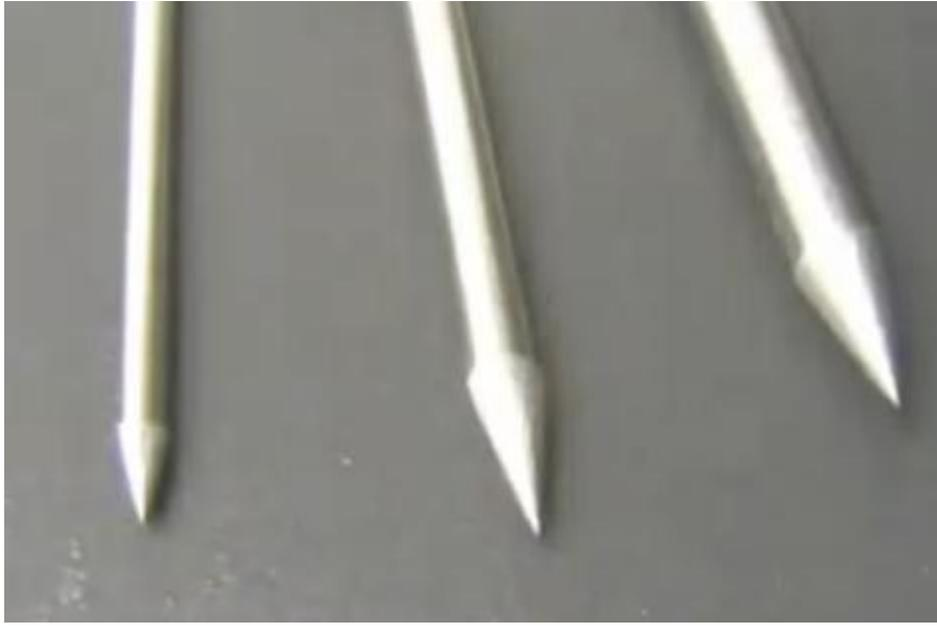

Figure 1: Properly sharpened tungsten electrodes
16. **Sharpen the tungsten on the dedicated tungsten grinder so it has a profile similar to the shape of a pencil tip (see figure 1 below).**